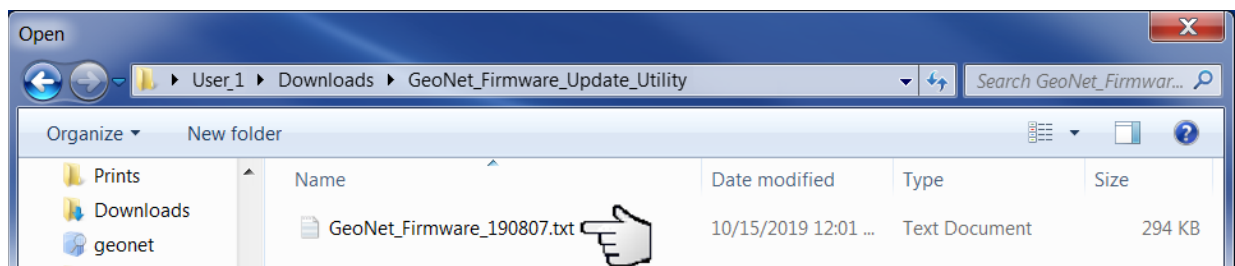

Figure 8- Double Click on Firmware Text File
9) Double click on the .txt firmware file (Figure 8). (Firmware files are named in the following format: “GeoNet_Firmware_YYMMDD.txt”, where YY is the last two digits of the year, MM is the month, and DD is the day of the month.)